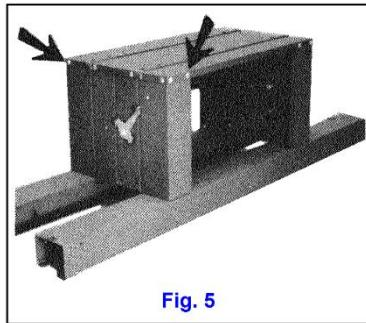

Fig. 5
2. **Mount deck** on top of end frames with deck flange on outside. Fasten with sixteen 1/4 - 20 x 3/8 truss head screws, with nuts and lock washers (Fig. 5). Screw heads go outside. Leave all screws finger tight until step 7.